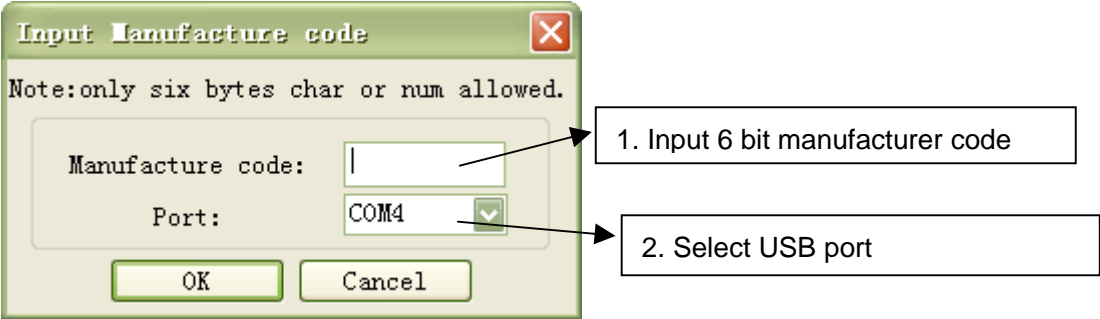

Figure1-11
6. (1) Click on the Code setup button, the dialog box Input manufacturer code as shown in figure 1-11 will pop up: